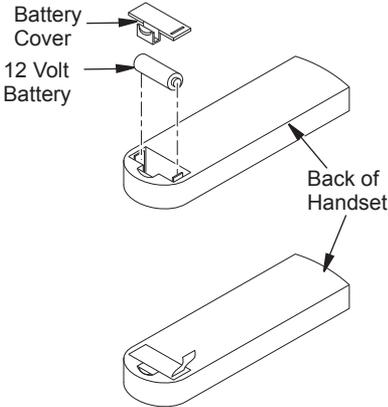

Figure 49 - Installing Battery Into Handset WRC
3. Activate remote handset battery by removing insulating tab on back of handset (see Figure 49, page 27). Battery is included pre-installed.